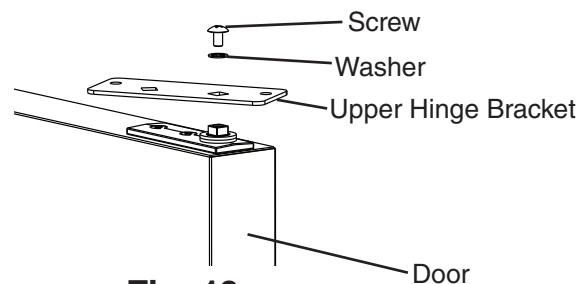

**Fig. 8**
- 3) Close the door. **WARNING! Keep away from upper hinge bracket. Upper hinge bracket kicks out when door is closed.** See Fig. 8. Remove the outer screw from the upper hinge bracket.